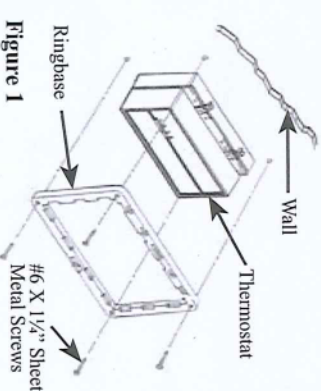

Figure 1
MOUNTING THERMOSTAT GUARD WITHOUT WALLPLATE (Figure 1)
- Mount the ringbase on the wall using four no. 6 x 1/4" sheet metal screws and four plastic anchors if needed. See Figure 1. **Be sure screws are securely fastened.**
- Mount the ringbase on the wall using four #6 x 1/4" sheet metal screws and four plastic anchors if needed. See Figure 1. **Be sure screws are securely fastened.**